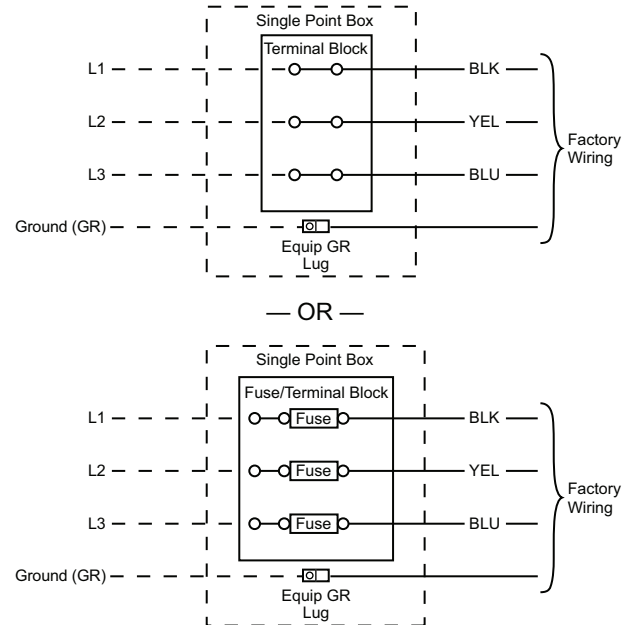
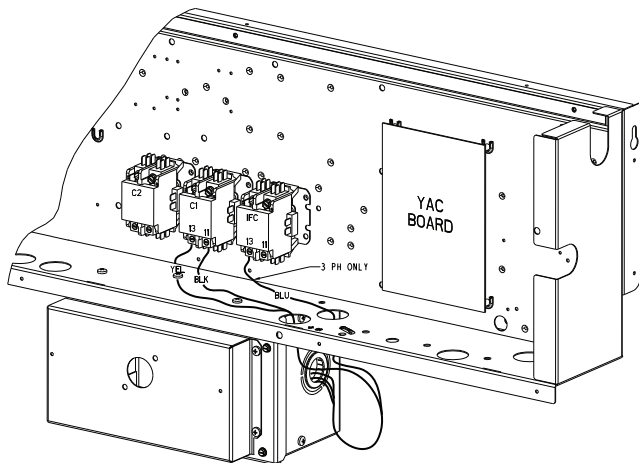

Fig. 18 — Power Wiring Connections
Fig. 20 — Location of Non-Fused Disconnect Enclosure
If equipped with optional Powered Convenience Outlet: The power source leads to the convenience outlet's transformer primary are not factory connected. Installer must connect these leads according to required operation of the convenience outlet. If an always-energized convenience outlet operation is desired, connect the source leads to the line side of the unit-mounted disconnect. (Check with local codes to ensure this method is acceptable in your area.) If a de-energize via unit disconnect switch operation of the convenience outlet is desired, connect the source leads to the load side of the unit disconnect. On a unit without a unit-mounted disconnect, connect the source leads to compressor contactor C and indoor fan contactor (IFC) pressure lugs with unit field power leads. See Fig. 18.
Field power wires are connected to the unit at line-side pressure lugs on compressor contactor C and indoor fan contactor IFC (see wiring diagram label for control box component arrangement), at factory-installed option non-fused disconnect switch. Max wire size is #4 AWG (copper only) per pole on contactors and #2 ga AWG (copper only) per pole on optional non-fused disconnect. See Fig. 18 and the unit label diagram for field power wiring connections.
The factory-installed optional non-fused disconnect (NFD) switch is located in a weatherproof enclosure located under the main control box (see Fig. 20). The manual switch handle and shaft are shipped in the disconnect enclosure. Assemble the shaft and handle to the switch at this point. Discard the factory test leads (see Fig. 18).
All field wiring must comply with NEC and all local codes. Size wire based on MCA (Minimum Circuit Amps) on the unit informative plate. See Fig. 18 and the unit label diagram for power wiring connections to the unit power terminal blocks and equipment ground. Maximum wire size is #4 ga AWG (copper only) per pole on contactors and #2 ga AWG (copper only) per pole on optional non-fused disconnect.
2. Install power lines to terminal connections as shown in Fig. 18 on page 15.